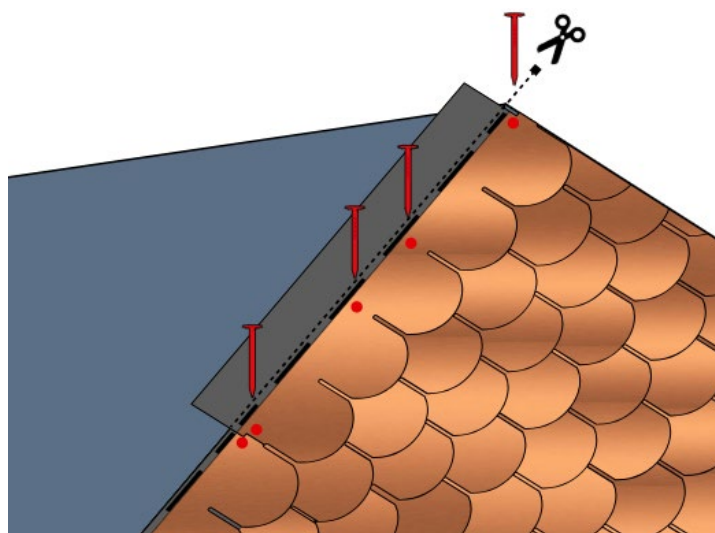

**Fig. 7 - Shingles installation**
- Apply over the membrane/underlayer a bead of bituminous adhesive Bitustick close to the gutter line - Fig. 7;
- Proceed with the installation of the first row of shingles: align the lateral edge of the first shingle on the vertical **z** and the upper edge on the horizontal 14,5 cm from **x** - Fig. 7. Nail the shingle to the substrate by placing 4 nails per shingle, as per Fig. 8 a). In the event of pitched slopes between 60° and 85°, place 2 additional nails, for a total of 6 nails per shingle, as per Fig. 8 b). Proceed by placing all the shingles in the first row.